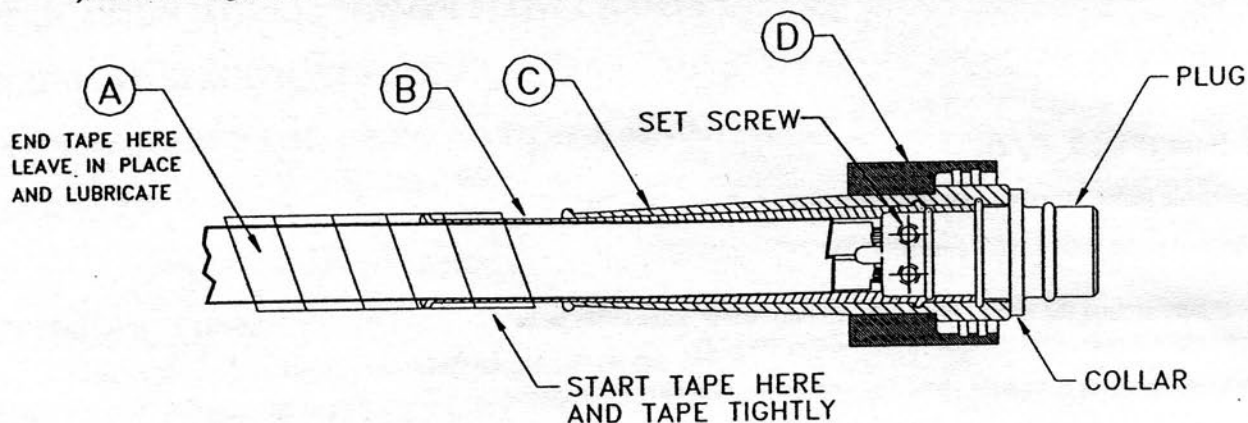

FIGURE 6
f) Insert the wire leads into Plug (Cable Adapter) connectors. Using a 5/64" Allen Wrench tighten the set screws (Fig. 6).
g) Slide the Inner Cable Boot (Part B) over the plug until it is flush with the first step on the collar (Fig. 6).
h) Lubricate the outer surface of the Inner Cable Boot and tape with supplied O-Ring grease. Slide the Outer Cable Boot (Part C) over the Inner Cable Boot until it is flush with the second step on the collar (Fig. 6).